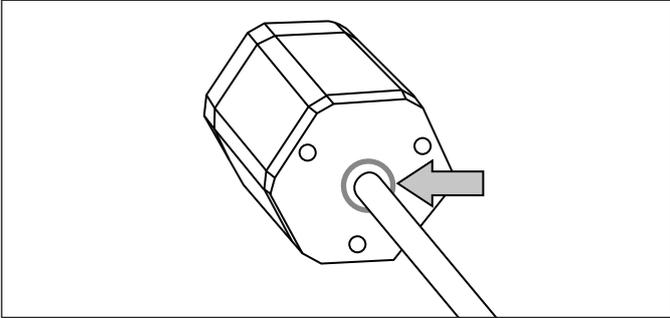

Fig. 22: Correct position of the O-ring in the groove of the sensor electronics housing
- Ensure that the O-ring seal (part no. 562 003) is correctly positioned in the groove on the sensor electronics housing before inserting the base unit into the support tube and attaching the sensor electronics (Fig. 22).
- Ensure that the O-ring seal (part no. 562 003) is correctly positioned in the groove on the sensor electronics before inserting the base unit into the support tube or the HFP profile and attaching the sensor electronics (Fig. 22).